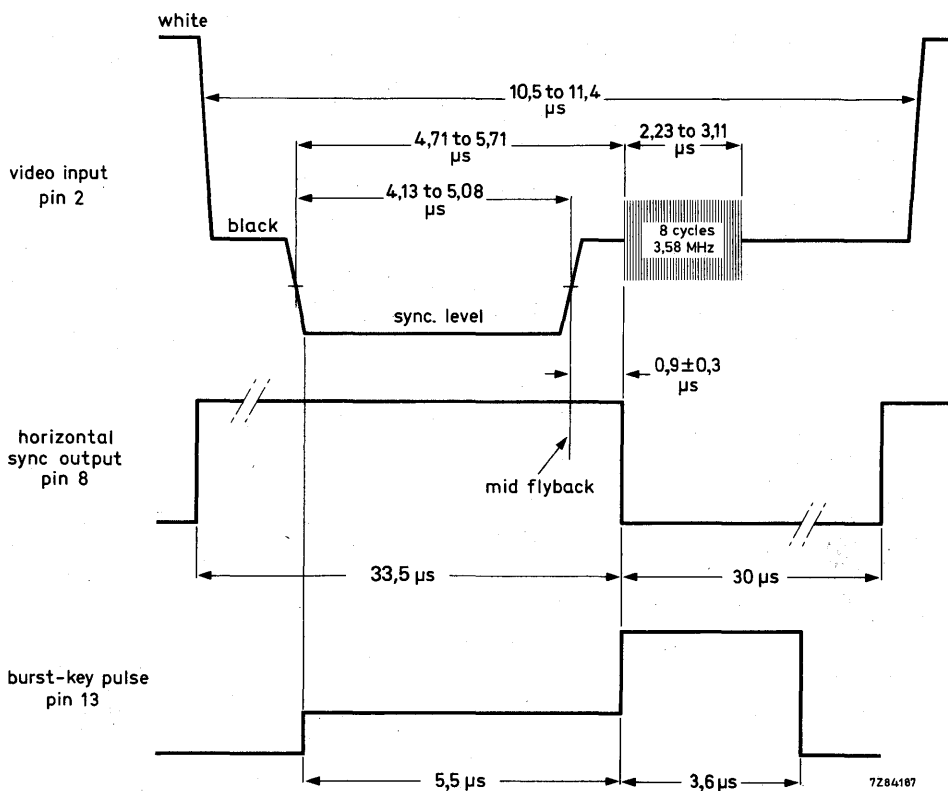

Fig. 2 Relationship between the video input signal to the TDA2575A and the horizontal sync and burst-key pulse output.
** See waveforms Fig. 2.
This pulse is composed of two parts. The lower part has an amplitude of 3 V peak-to-peak and a width of $9,1 \mu\text{s}$ (for phase relation see Fig. 2). The upper part has a total amplitude in excess of 10 V peak-to-peak and a width of $3,6 \mu\text{s}$. The leading edge of this pulse has a delay of $0,9 \mu\text{s}$ with respect to the falling edge of the sync pulse at the input (pin 2).